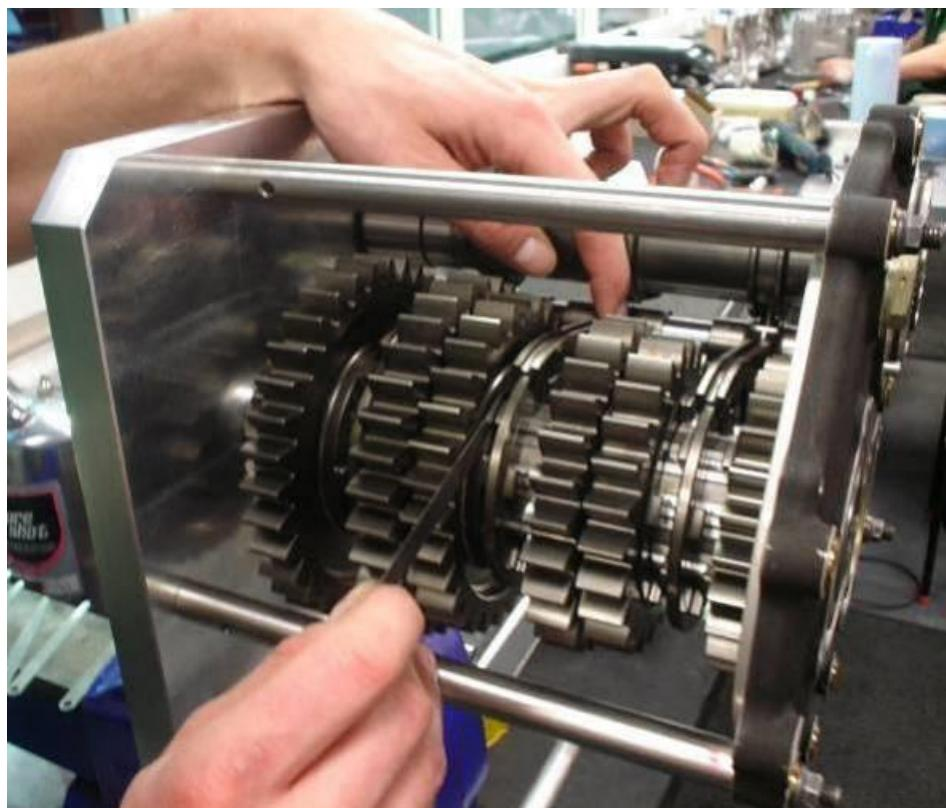

Figure 7 – Measuring Dog Stand Off (Generic sportscar cluster shown)
2. Rotate the barrel to each ‘in gear’ position and measure the dog stand off using feeler gauges as shown in Figure 7. The dog stand off is the distance between each gear dog root and the tip of the dog ring dog. A small amount of force should be exerted on the fork (at the selector rail journal) to remove backlash. Dog stand off values are typically 0.05mm to 0.2mm.